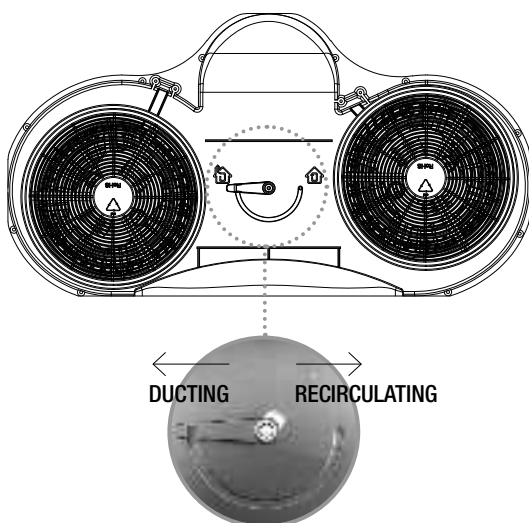
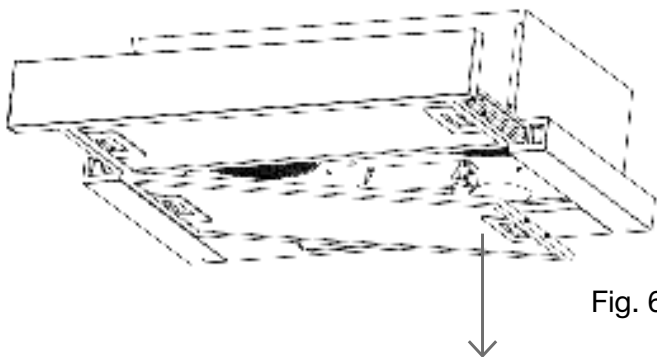
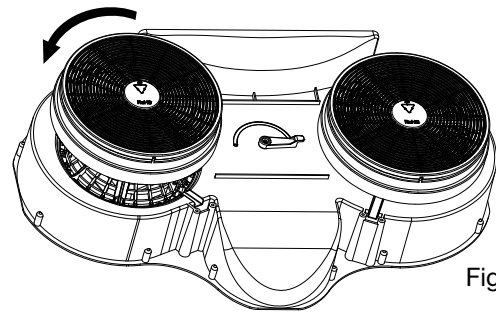

Fig. 1
Fig. 6
Fig. 8
Before Installation, please decide the extraction mode with the adjuster on the motor (Fig. 1).
3. Remove the aluminium grease filters (Fig 6. on page 10) from the underside of the rangehood. Turn the switch in the centre of the motor housing to "External Outside Ducting" position (Fig. 1)
4. Remove the charcoal filters by twisting anti-clockwise (Fig. 8 on page 11). The charcoal filters are not required for "external outdoor ducting mode"
To ensure that the mode is correct, remove the grease filters (see Fig. 6) and check that the switch is in “Recirculation mode” position (Fig. 1).
To remove the charcoal filters you will first need to remove the grease filters (see Fig. 6), now twist anti-clockwise and pull down as shown in Fig. 8.